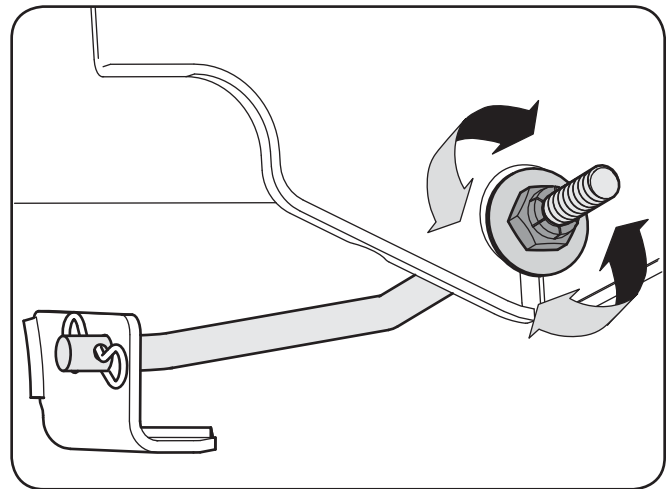

Figure 6-5
3. Locate the nut (s) on the front side of the stabilizer bracket. See Fig. 6-5.